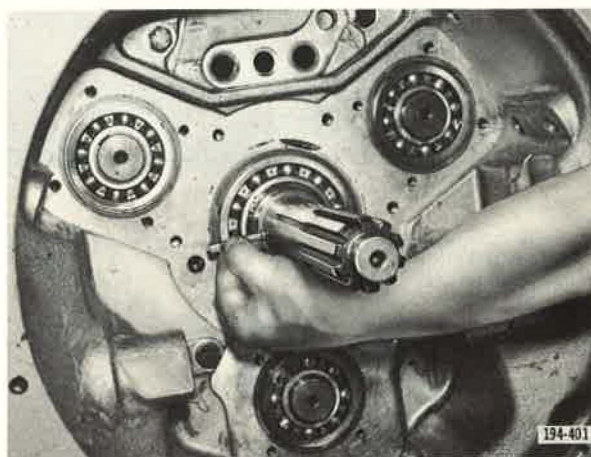
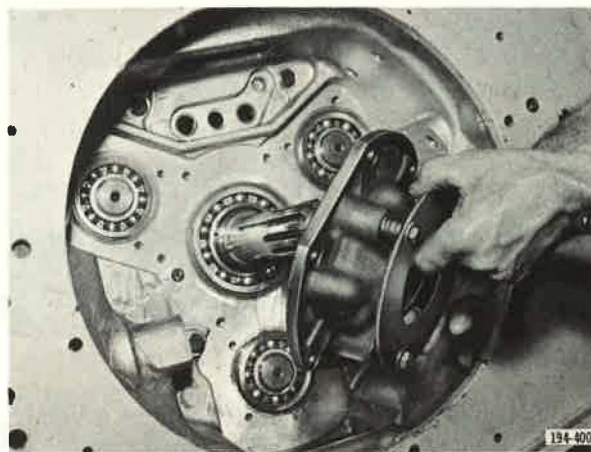

Figure 40. Installing Oil Pump Vane
Figure 41. Installing Driving Pinion Bearing Cover Assembly
5. Install oil pump vane in pinion. See Figure 40. Vane should be flush with the R. H. side of the pinion shaft and protruding slightly from the left side (as observed from the front of the transmission). This will insure alignment of vane with eccentric bore in cover during assembly. Apply sealer compound and carefully install pinion cover gasket and cover. See Figure 41. Install cover capscrews and tighten to recommended torque.